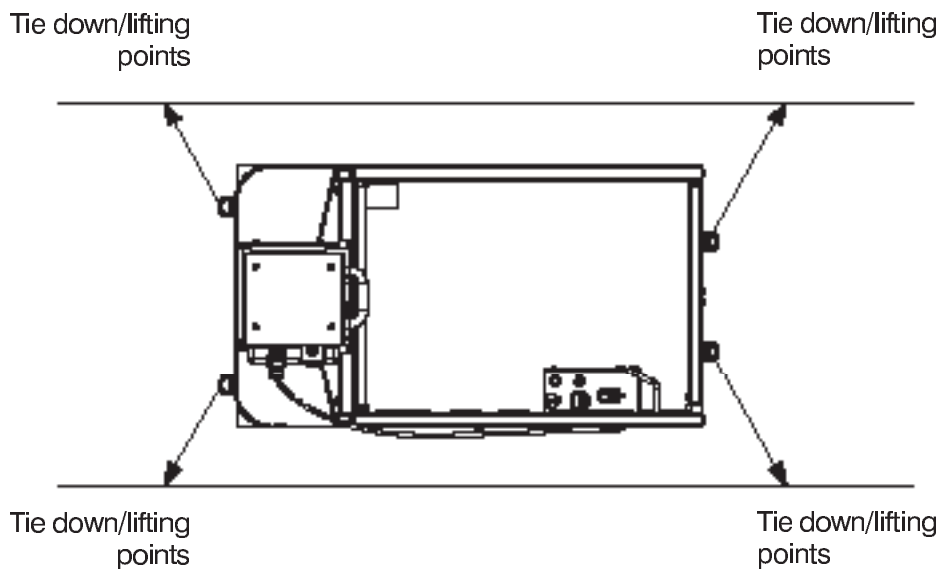

Figure 3-8. Tie Downs/Lifting Points
When transporting, the aerial platform must be secured to the truck or trailer deck. Tie downs are available as illustrated in Figure 3-8.
- The lifting/rigging must be attached to all four lifting points as illustrated in Figure 3-8.